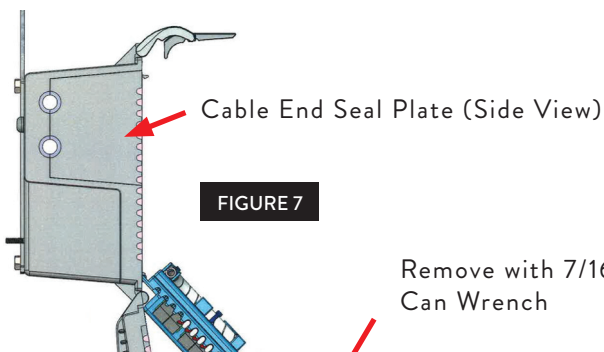

FIGURE 7
1. Remove the cable end-seal plate [Figure 7] on the end of the enclosure with the 7/16" (11mm) end of a can wrench or a 7/16" (11mm) nut driver [Figure 8]. *(The top half of the cable grommet should stay with the end-seal and the bottom half will remain in place.)*